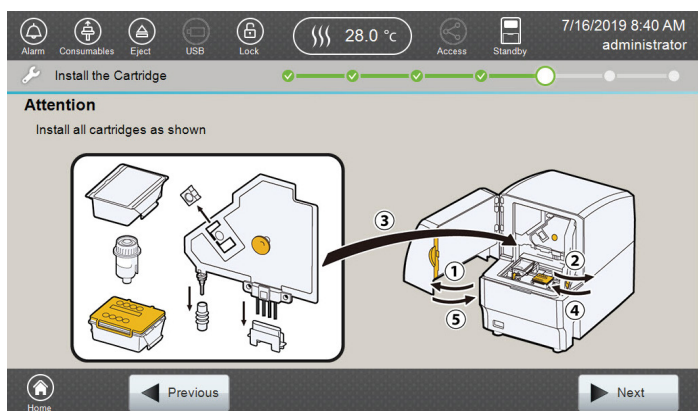

Figure 42. 'Install All Cartridges' screen.
2. Follow the on-screen instructions for the wizard, reading the barcode for each consumable with the Barcode Scanner when prompted. After selecting **Next** on the 'Capillary Cartridge Information' screen, a warning dialog stating 'Autosampler is moving. Do not open door' is displayed along with status indicator flashing green. Status indicator returns to steady green when the 'Install the Cartridge' screen is displayed (Figure 42).
3. When the 'Install the Cartridge' screen is displayed (Figure 42), open the front door. Then, install all consumables on the instrument. See Section 3.2, Changing Consumables One at a Time, for instructions on how to change each consumable.
4. After installing all consumables, close the front door of the instrument. Status indicator flashes amber while autosampler returns to home position, then returns to steady green. Select **Next** on the 'Install the Cartridge' screen (Figure 42).